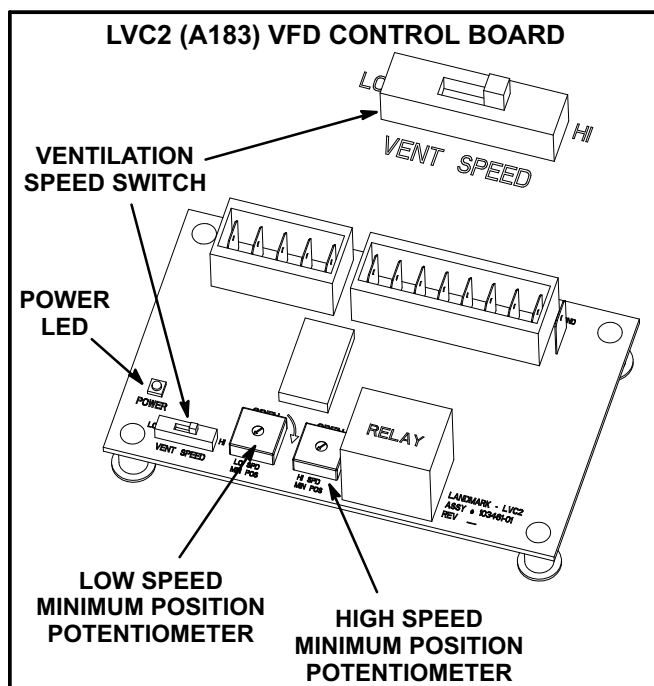

FIGURE 22
To save energy during ventilation, the blower speed can be set to low. This is accomplished by changing the ventilation speed switch on the VFD control board to "LO". See figure 22.
To maintain required minimum ventilation air volumes when the unit is in the occupied mode, two minimum damper positions must be set. A high and a low speed potentiometer are provided on the VFD control board to adjust minimum damper position. See figure 22.
- 5- Check the power LED on the board. See figure 22.
- 8- When LVC2 24VAC thermostat blower (G) input and 24VDC power are present, check the LVC2 low and high speed outputs. The LVC2 uses inverse logic to enable the blower; 1VDC will be read at the enabled blower speed terminal. See table 16.